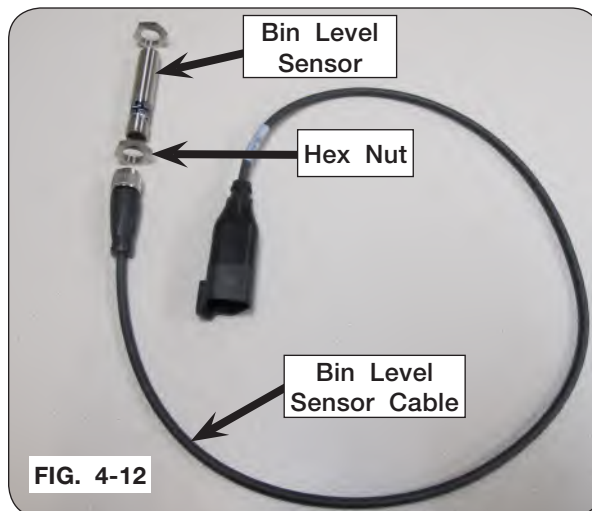

FIG. 4-12
7. Ensure the o-ring or the washer do not touch the housing. See FIG. 4-12.
NOTE: Fiber washer (9008810) is not shown in Figure 4-12.
2. Remove previous bin level sensor body and hardware from the spreader box. (FIG. 4-12 and 4-13)